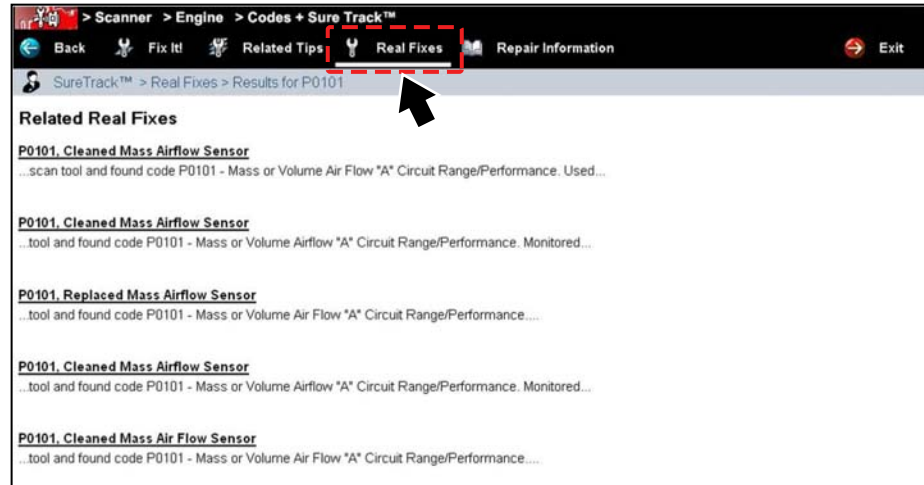

Figure 15-9 Real Fixes Screen
**Real Fixes**—opens a list of tips related to the current DTC that have been gathered from actual shop repair orders and presented in a Complaint, Cause, Correction format (Figure 15-9).